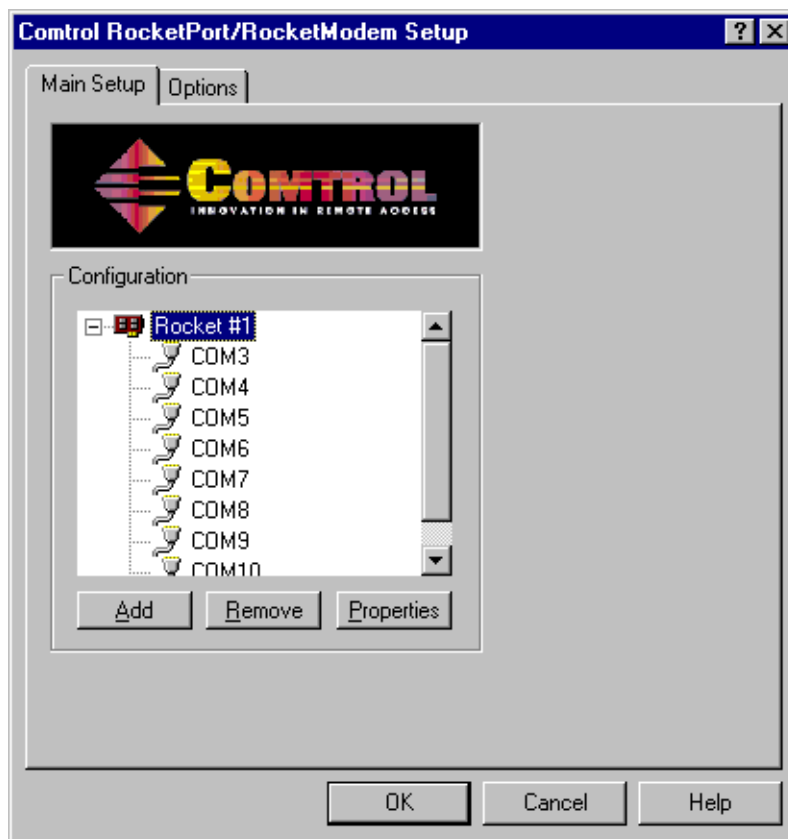

Figure 9. Chosse the Options tab.
14. Choose the Options tab in the Control RocketPort/RocketModem Setup dialog box (see Figure 9).